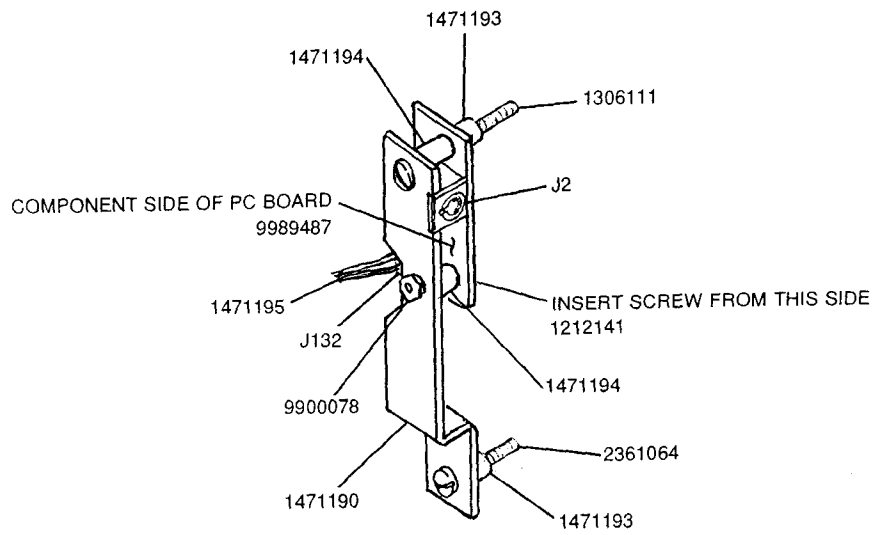

Figure 1
*Refer to Figure 1 during assembly.*
3. Complete the assembly as shown in Figure 1.